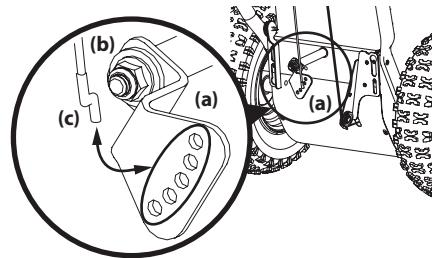

Figure 2-58
- Lift the shift cable index bracket (a) up to create slack in the cable (b). See Figure 2-58.